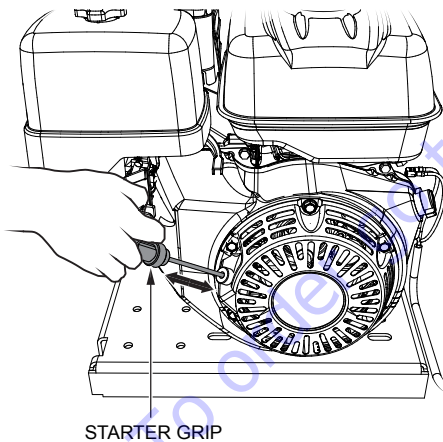

Figure 13. Starter Grip
7. Grasp the starter grip (Figure 13) and slowly pull it out. The resistance becomes the hardest at a certain position, corresponding to the compression point. Pull the starter grip briskly and smoothly for starting.